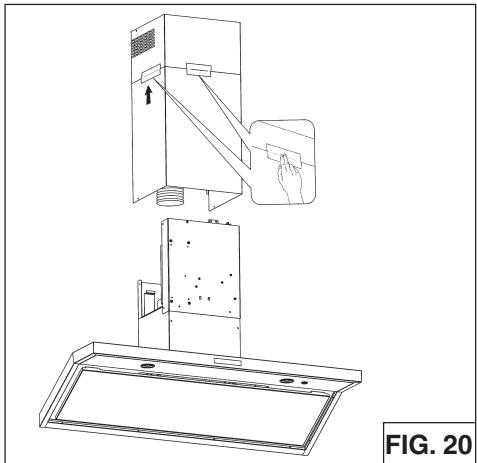

FIG. 20
5. Temporarily secure the upper and lower flue together with duct tape as shown (Fig.20).